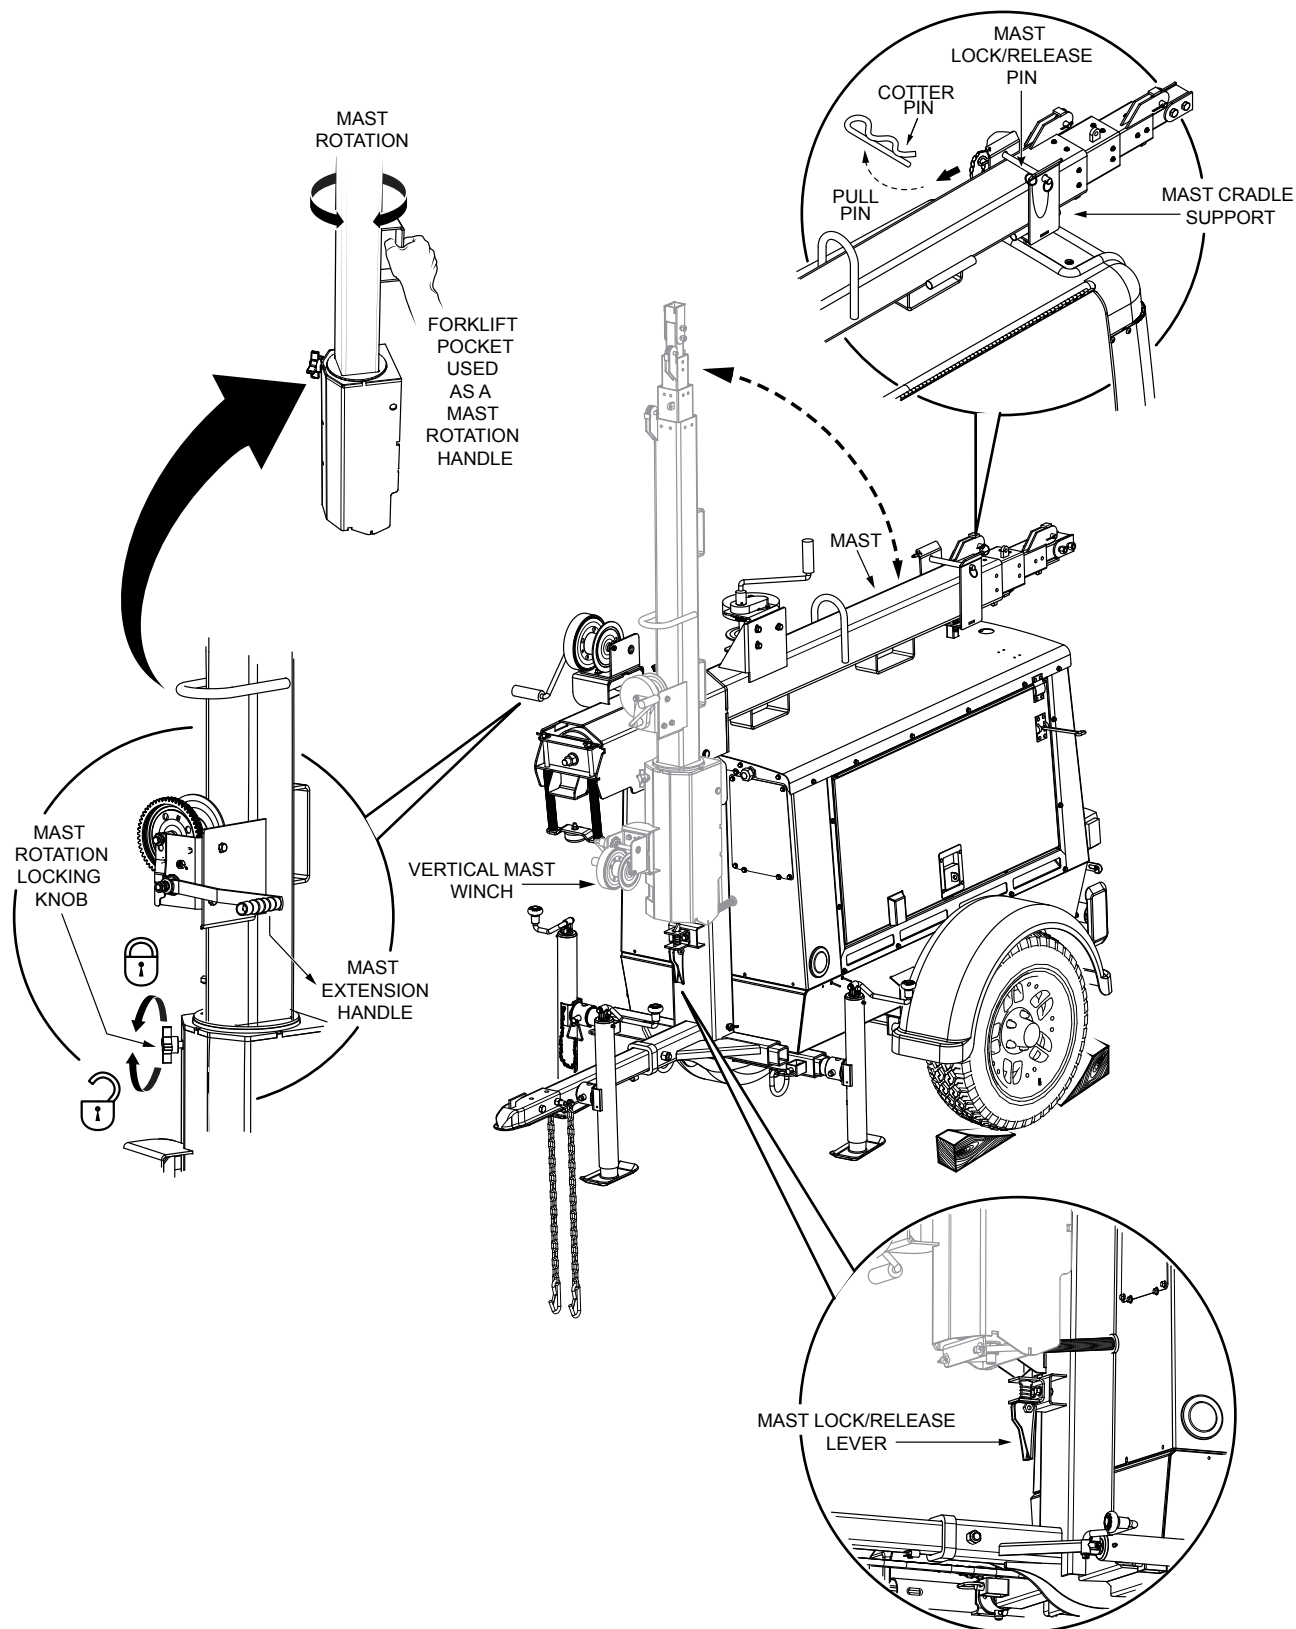

Figure 18. Raising The Mast
1. To release the mast from the mast cradle (stow position), remove the cotter pin (Figure 18) from the cradle lock/release pin.
1. With the mast in the deployed position (fully vertical), unscrew the mast rotation locking knob (Figure 18) to release the mast for rotation.
2. Grab hold of the forklift pocket (Figure 18) near the mast extension winch and rotate the mast until the lights are facing in the desired direction.